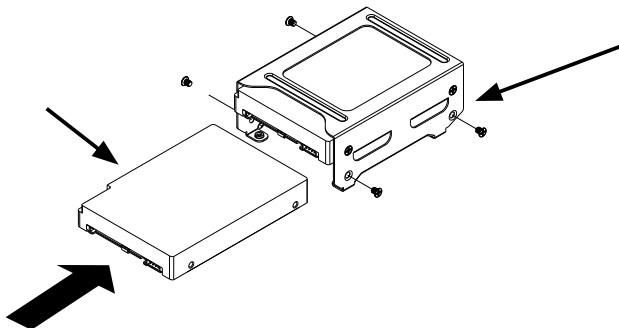

Figure 3-5. Installing 3.5" Storage Drives into the Bracket
3. Obtain the optional bracket and secure the drive(s) to the bracket. (Figure 3-5)